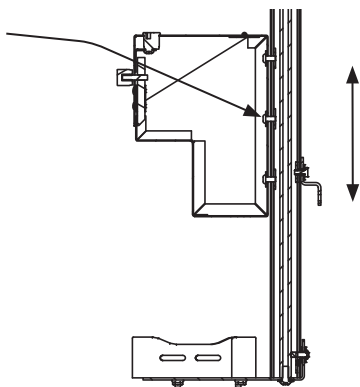

Fig. 6
- A. Open the lock box and loosen the bolts with a 7/16" socket and extension wrench to adjust the box up or down as needed. (Swivel attachment is required) Install supplied black felt over bolts when box position has been fixed. (See Fig. 6)